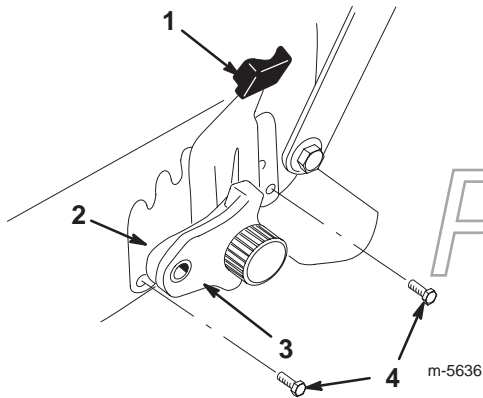

Figure 3
- Move the spring arms to the highest cutting height setting (Fig. 3).
- Remove and discard the wheel bolt that secures each wheel to the pivot arm (Fig. 3).
- Position each rear wear plate (Figs. 3 and 4), aligning the notches in the wear plate with the notches in the lawn mower housing.